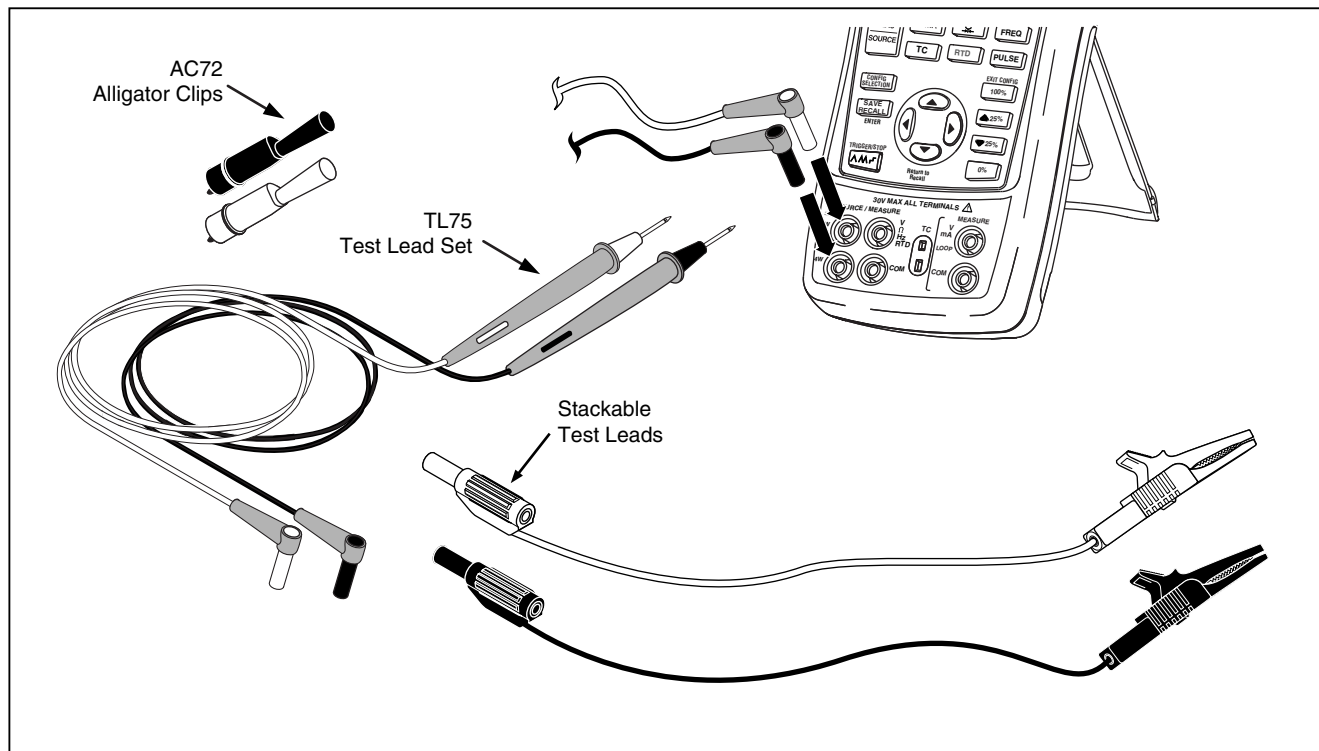

Figure 1. Standard Equipment
If the Calibrator is damaged or something is missing, contact the place of purchase immediately. To order replacement parts, see Table 8. The items listed below and shown in Figure 1 are included with the Calibrator.
- *726 Product Overview* (not shown in Figure 1)
- *725/726 CD-ROM* (contains Users Manual; not shown in Figure 1)